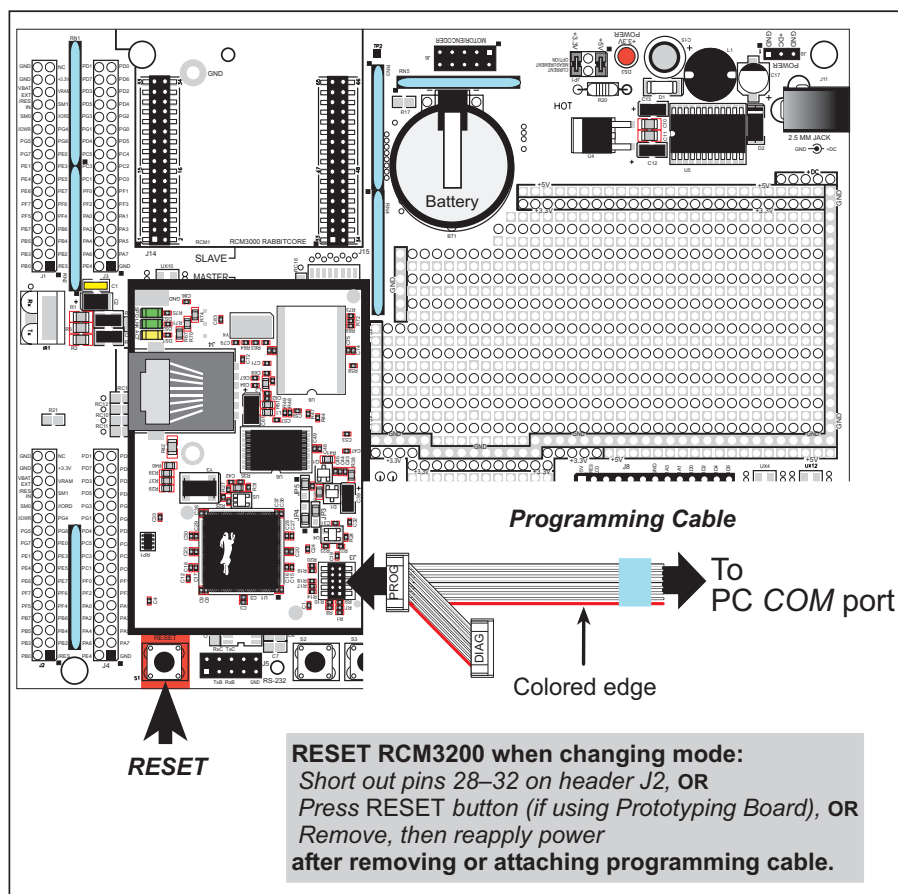

Figure 6. Switching Between Program Mode and Run Mode
2. Reset the RCM3200. You may do this as explained in Figure 6.
To run a sample program, open it with the **File** menu (if it is not still open), compile it using the **Compile** menu (or press **F5**), and then run it by selecting **Run** in the **Run** menu (or press **F9**). The RCM3200 must be in Program Mode (see Figure 6) and must be connected to a PC using the programming cable.